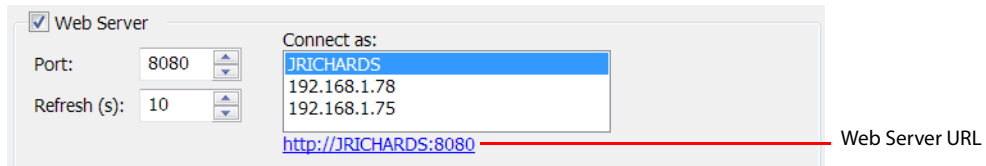

Figure 3-23: Web Server URL
2. In the **Options** dialog box (Figure 3-23), select the **Web Server** check box. Adjust the **Port** and **Refresh** settings and change the **Connect as** IP address if needed. The default **Refresh** rate of 10 will refresh the experiment view in the web browser every 10 seconds. Click **OK**.
3. Click **File > Options** to access the **Options** dialog box again. A **Web Server URL** will now be listed under the **Connect as** box (Figure 3-23). Note this URL as it will be needed to access the experiment remotely.